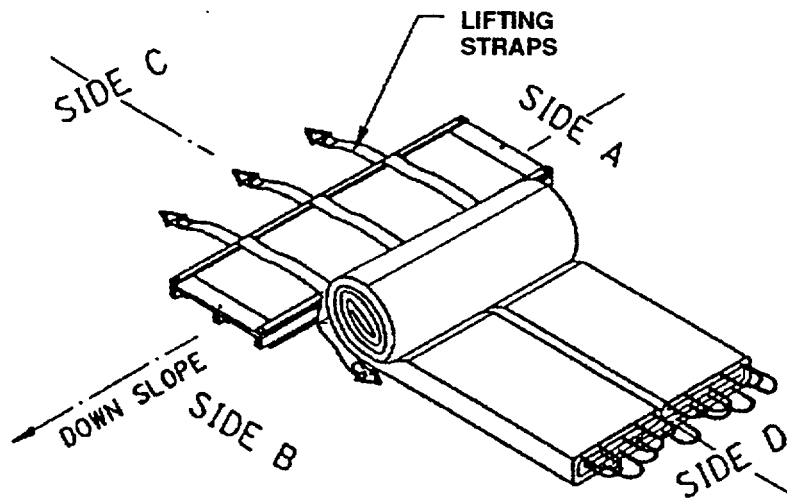

Figure 4-20. Tank against skid.
- k. Place an empty tank skid against the tank (see figure 4-20.). Place the lifting straps across the skid. (These straps are used to lift the tank off the skid; they do not hold the tank to the skid.)